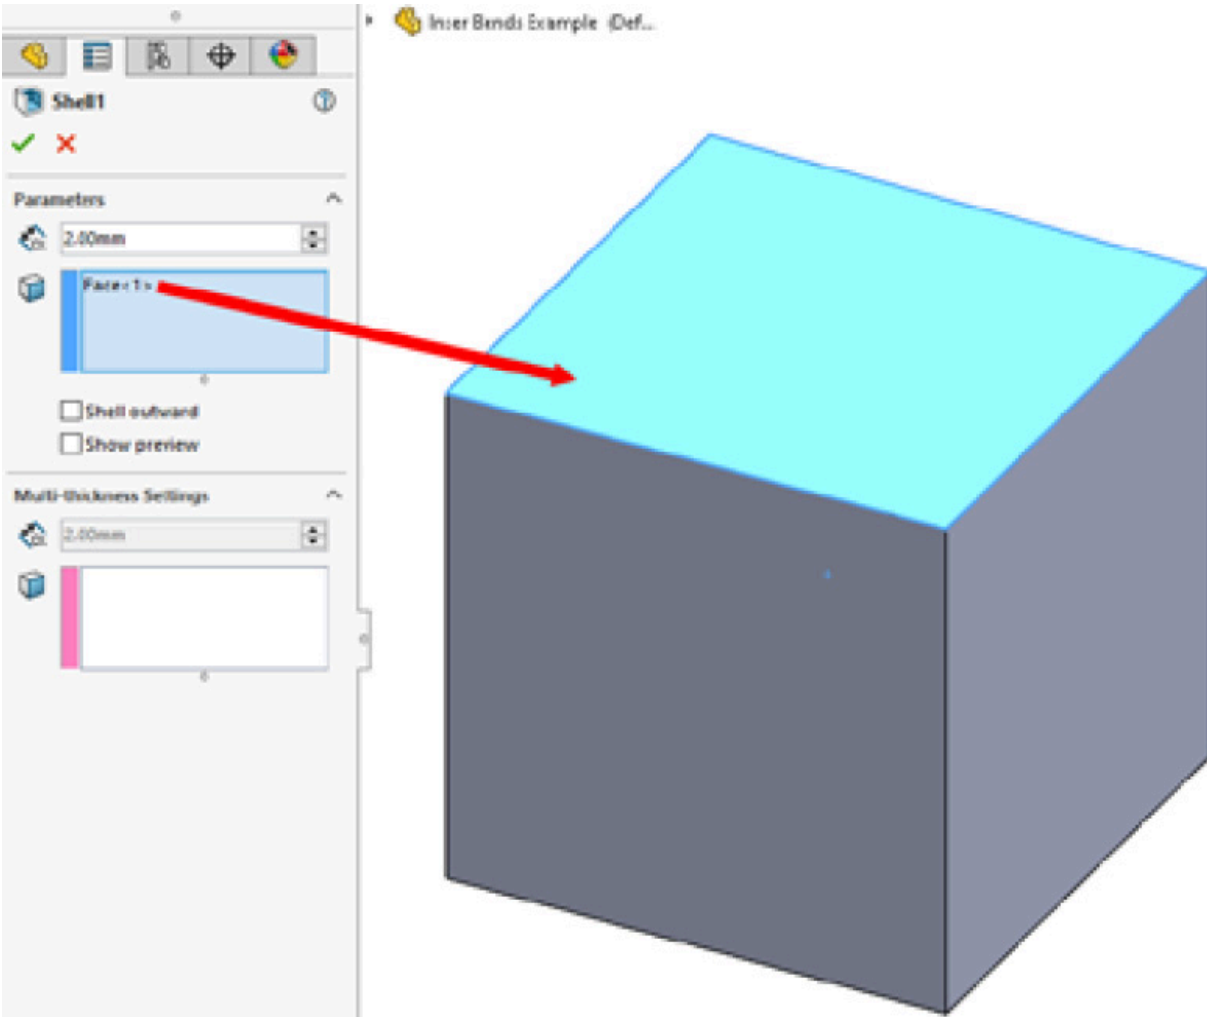

Figure 11.1: Shelling the cube to a wall thickness of 2 mm and removing the upper face
2. Hollow out the cube and remove the upper face by selecting the **Shell** tool and selecting the upper face as one of the **Faces to Remove** (Figure 11.1). Set the wall thickness as **2mm**.